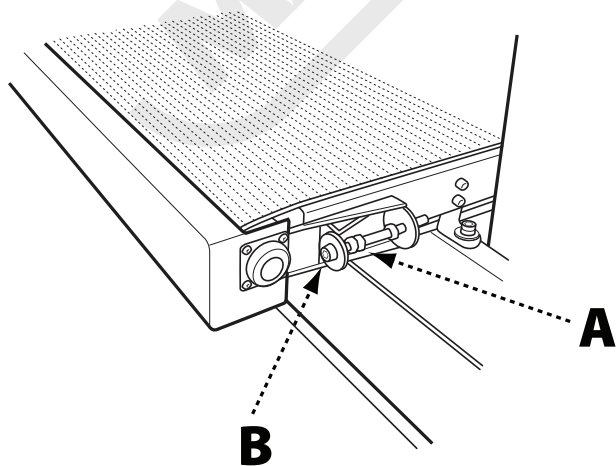

FIG. 8
2. Release tension on the feed belt by backing off the locking nuts (A) on the feed belt adjustment bolts (Fig. 8) and then tightening the feed belt adjustment bolts (B) until they are loose enough to remove the feed belt assembly.